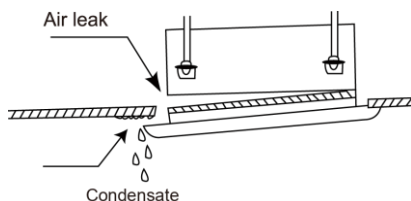

Fig. 4.31
- (2). Improper screwing of the screws may cause the troubles shown in Fig. 4.31.